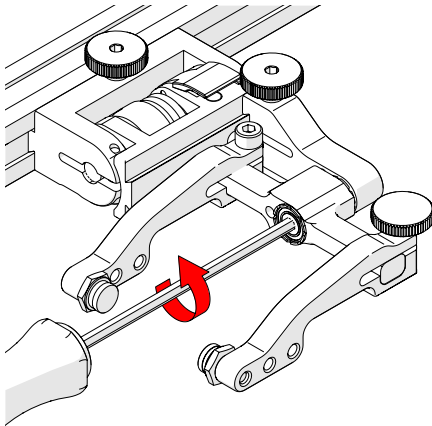

Fig. 92 - Unscrew yoke pivot screw
1. Unscrew the yoke from the swing arm (*Fig. 92*).